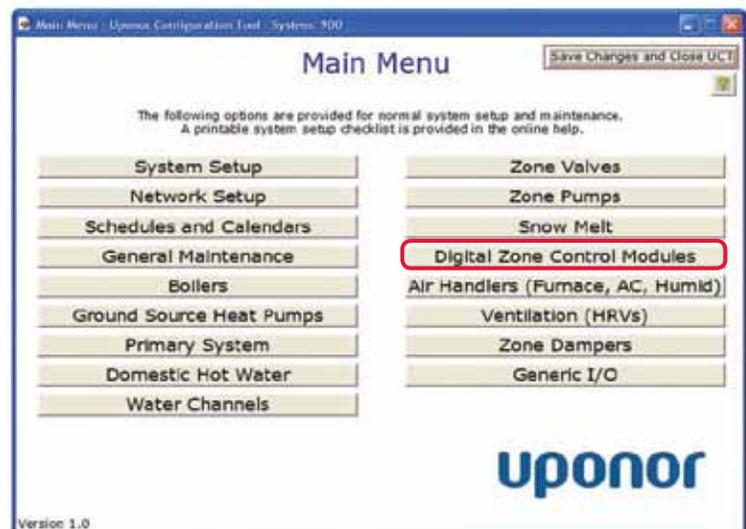

Figure 3.8-2: Main Menu Screen
1. From the **Main Menu** screen in the Uponor Configuration Tool (UCT) software (A9090000), click on the **Digital Zone Control Modules** button shown in **Figure 3.8-2** to display The Digital Zone Control Modules (DZCMs) screen shown in **Figure 3.8-3**.